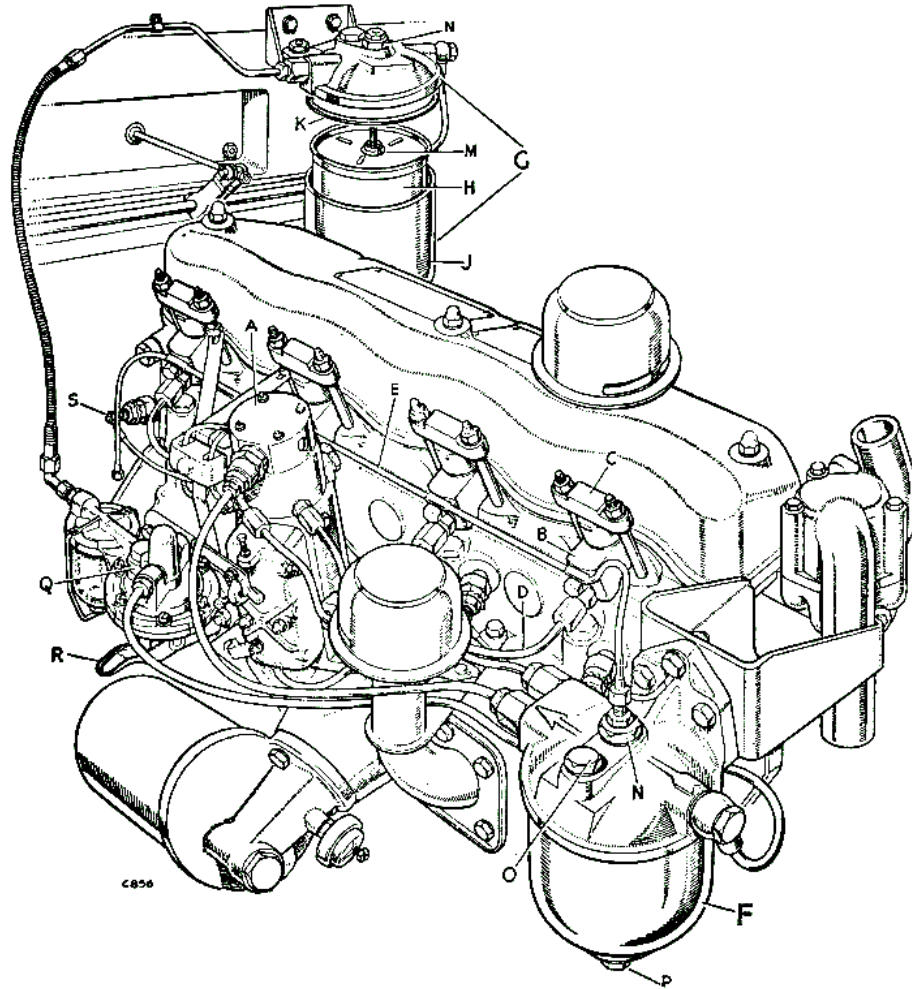

Fig. M-24—Layout of twin filters.
All Export Diesel models are fitted with an additional C.A.V. paper element type fuel filter mounted on the engine side of the dash, in the pipe line between the fuel tank and the mechanical fuel pump. See Fig. M-24.
9. Operate the fuel pump hand priming lever until fuel free of air emerges. See Hand lever, Fig. M-24.